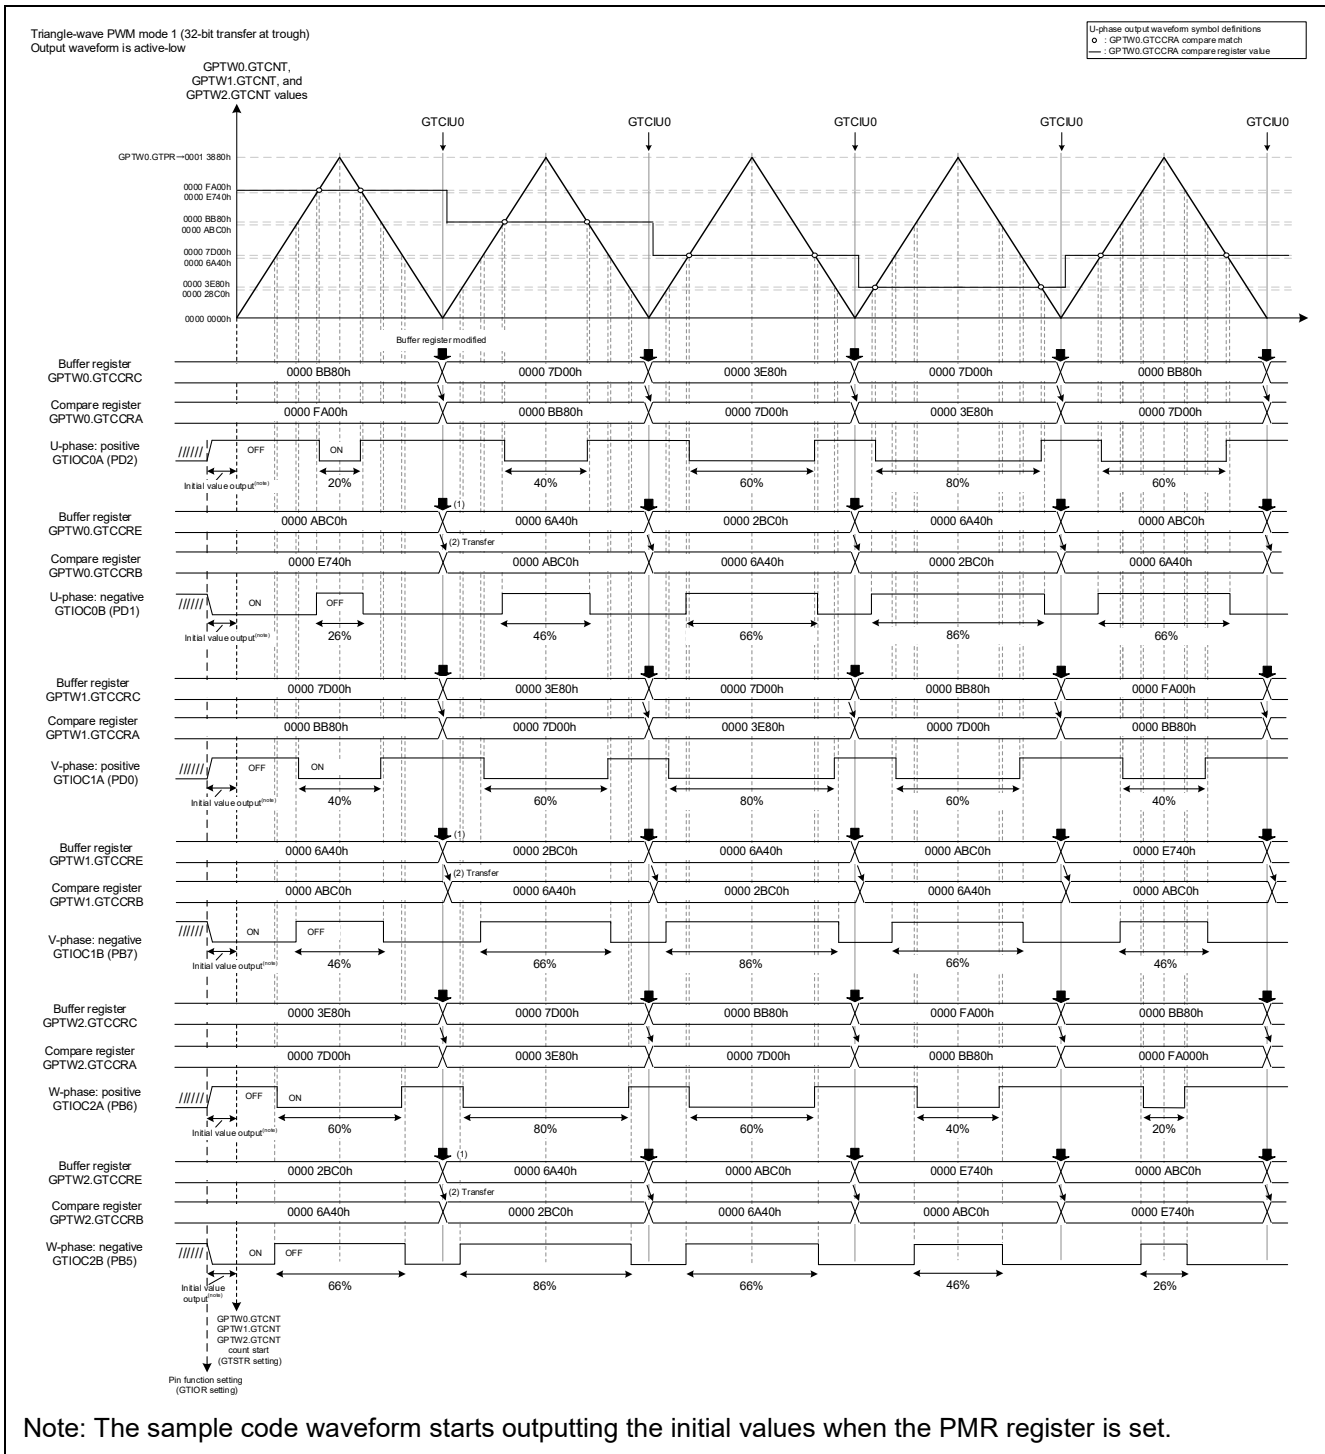

Figure 4.52 When Automatic Dead Time Setting Function is Not Used (Triangle-wave PWM Mode 1)
Figure 4.52 shows an example of operations when the automatic dead time setting function is not used (GTDTCR.TDE bit is 0).
In the above sample code, a waveform that secures the dead time period is generated by setting a value to the compare match register GTCCRB for negative-phase waveforms and buffer register GTCCRE ((1) in Figure 4.52) and transferring from the buffer register to compare register GTCCRB ((2) in Figure 4.52) when a GTCNT counter underflow occurs (trough).
Similar to the positive-phase, in the negative-phase the compare value is updated with every cycle by modifying buffer register GTCCRE ((1) in Figure 4.52) and transferring from the buffer register to compare register GTCCRB ((2) in Figure 4.52) when a GTCNT counter underflow occurs (trough).